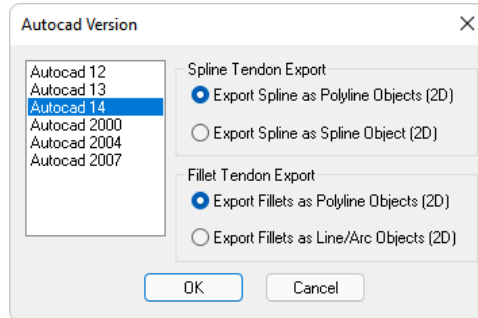

FIGURE 10-31
- We can now export the rebar to a CAD drawing to produce our documentation. Go to **File**→**Export**→**DWG**. This will open the AutoCAD Version window where you can choose the drawing version as well tendon Spline and Fillet options, as shown in **FIGURE 10-31**.